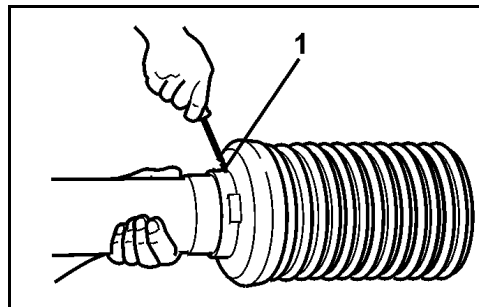

Fig. 44
2. Remove the locking screw (Fig. 44/1) from the PTO shaft guard.